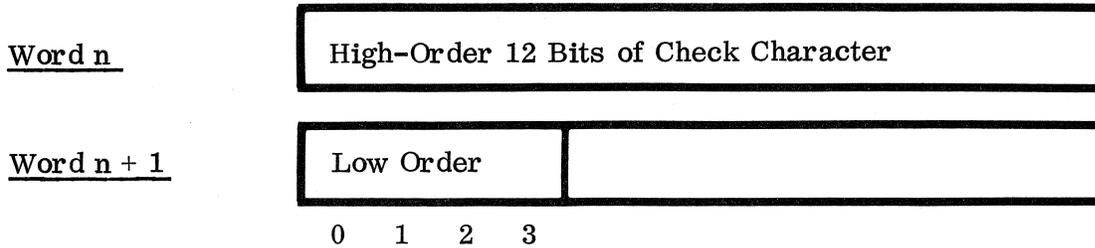

Figure 4-4. CRC Format
4.2.3.7 READ/WRITE CRC (Bit 4). If this bit is set when a WRITE operation is requested (OP = 1), two more words containing the CRC are written at the end of a sector. If there are n words per sector (i. e. , words 0 through n-1), then words n and n + 1 of the memory buffer should contain the 16-bit CRC as shown in Figure 4-4. If this bit is set when a READ operation is requested (OP = 0) the two words containing the CRC are transferred into memory after the data words of the sector.